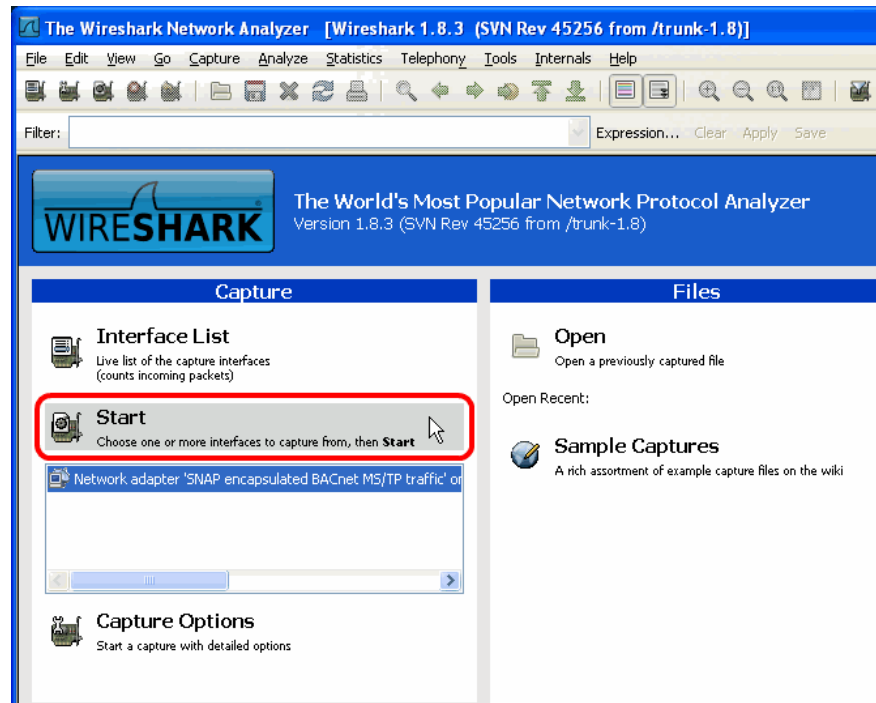

Figure 139: Start Remote Capture in Wireshark.
2. Click the **Start** button as shown in Figure 139.